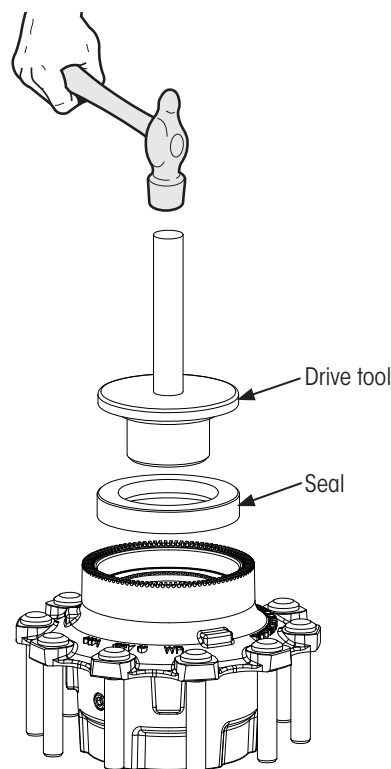

Figure 9: Hub-mounted seal installation
- NOTE:** A hub seal driver (Figure 9) is recommended and can be obtained from seal manufacturer.
8. **Place** seal onto the drive tool (Figure 9) for installation into the hub according to seal manufacturer's instructions.